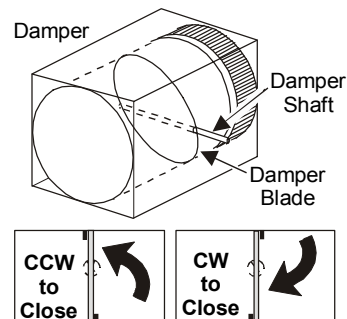

Figure 4: Damper Rotation
- Press and hold the gear release lever shown in Figure 1, and rotate the actuator coupler and damper shaft to the fully closed position as shown in Figure 4.